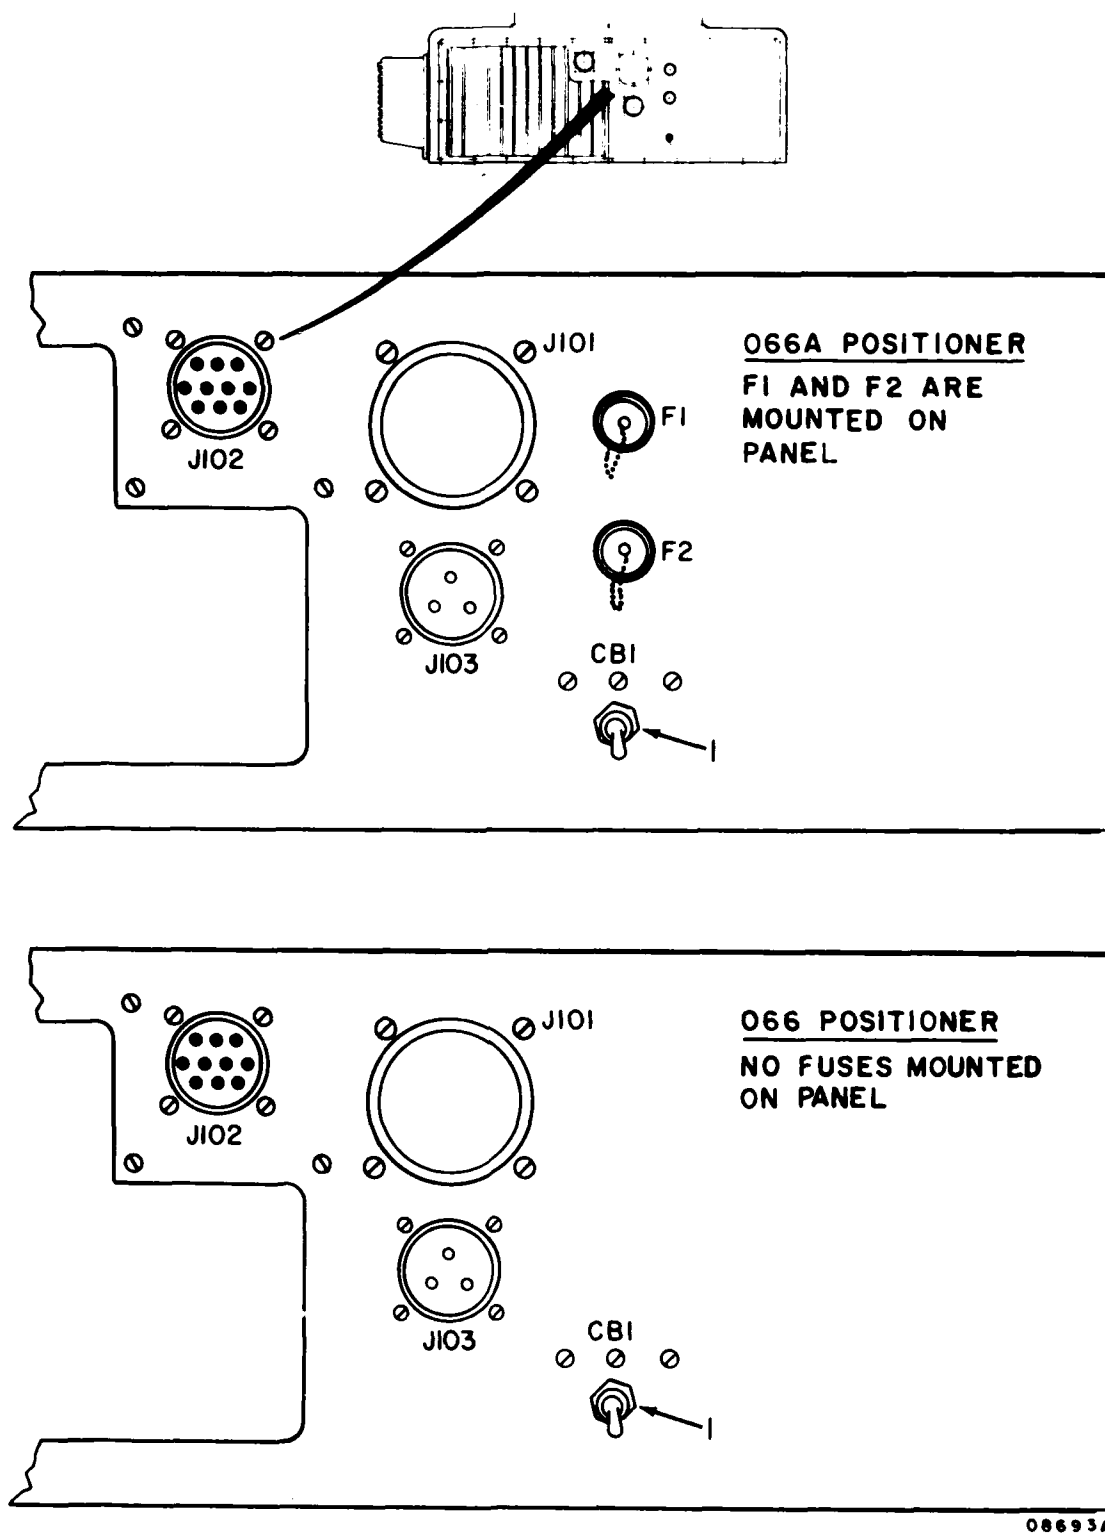

Figure 1.2. Searchlight Positioner, Model Identification
1.4. Instrument and Manual Identification. This manual covers the Model 066A positioner which can be distinguished from the Model 066 by reference to Figure 1.2.